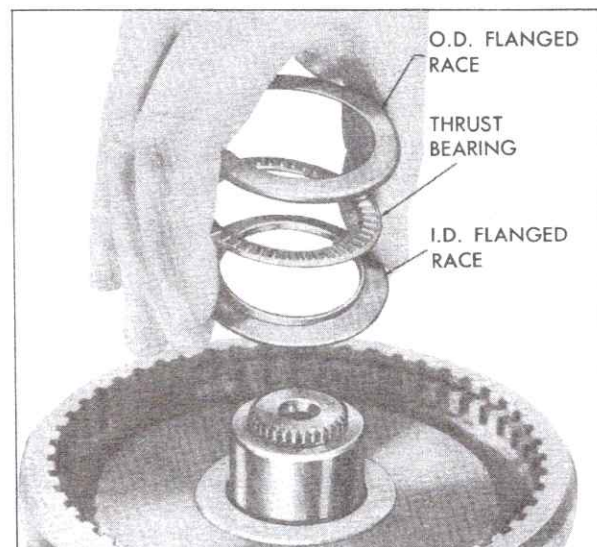

Fig. 7-84 Installing Races and Thrust Bearing on Outer Face of Rear Internal Gear
a. Install small diameter (flanged I.D.) race first, with flange facing up, Fig. 7-84.